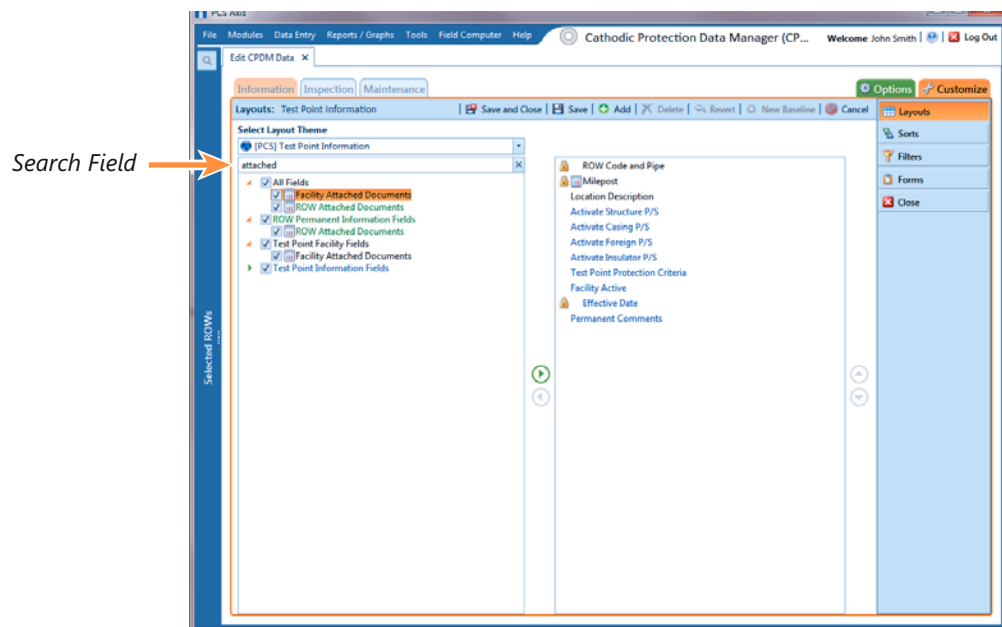

Figure 7-99. Layouts
- a Click the check box for the fields **Facility Attached Documents** and/or **ROW Attached Documents** in the left pane of the window (Figure 7-99, page 320).